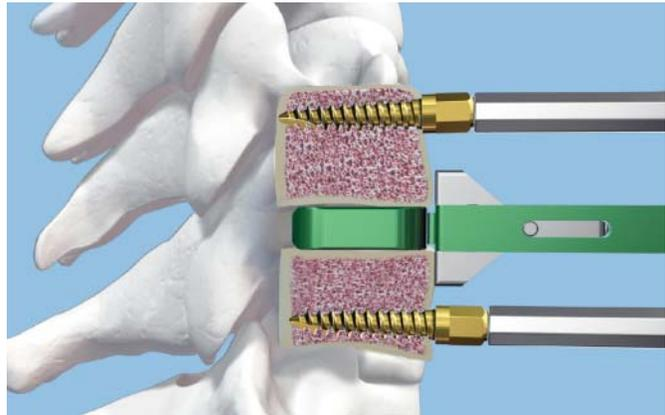
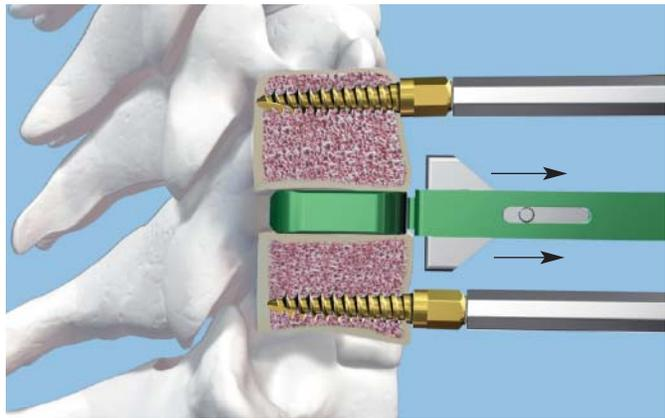

Figure 19
Figure 20
- Under lateral fluoroscopic control, insert the trial into the disc space using the mallet (Figure 19). The trial stop can be backed out to allow the trial to advance more posteriorly (Figure 20). Each full counterclockwise rotation of the handle allows the trial to be advanced 0.5 mm. The optimal position of the trial is at the posterior margin of the vertebral bodies, centered on the midline (Figures 21 and 22).